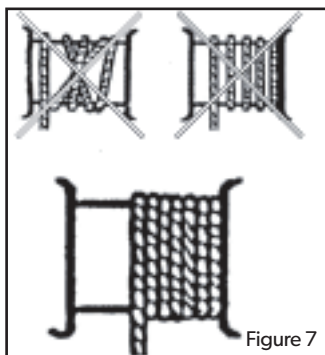

Figure 7
7. The motor (14) for the cable hoist is fitted with a thermostat switch. Whilst the cable hoist is operating, the motor (14) may therefore stop. It will restart automatically when it has cooled down.
12. Before you start, ensure that the steel cable (6) is correctly wound around the drum (3) and that the spacing between the winds is smaller than the steel cable (Fig. 7)
13. Ensure that the load is correctly secured to the hook (8) or, if you are using the block and tackle, the additional hook (16) and always maintain a safe distance from the load and the steel cable (6).